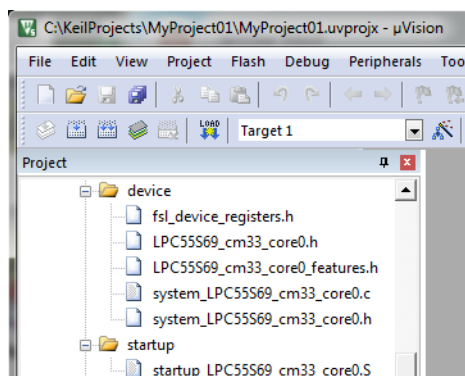

Figure 1-18. Project
10. Click OK, and a new project is created. The new project is now visible in the left-hand part of Keil µVision. See Figure 1-18.
13. Select Use Single Precision in the Floating Point Hardware option. See Figure 1-18.